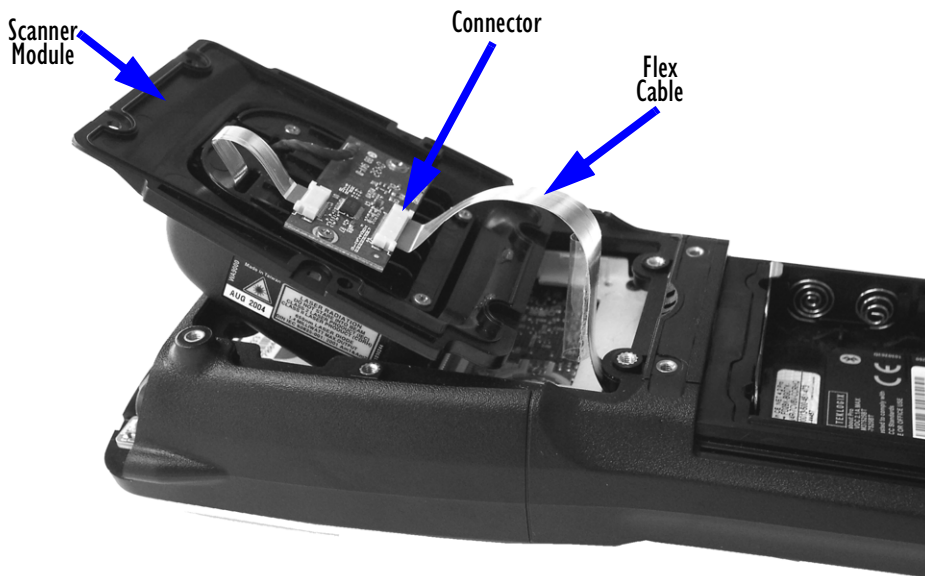

Figure 8.9 Attaching The Flex Cable To The Scanner Module
- Insert the flex cable into the connector on the scanner module (refer to Figure 8.9 on page 268). If necessary, use pincers to hold the flex cable.